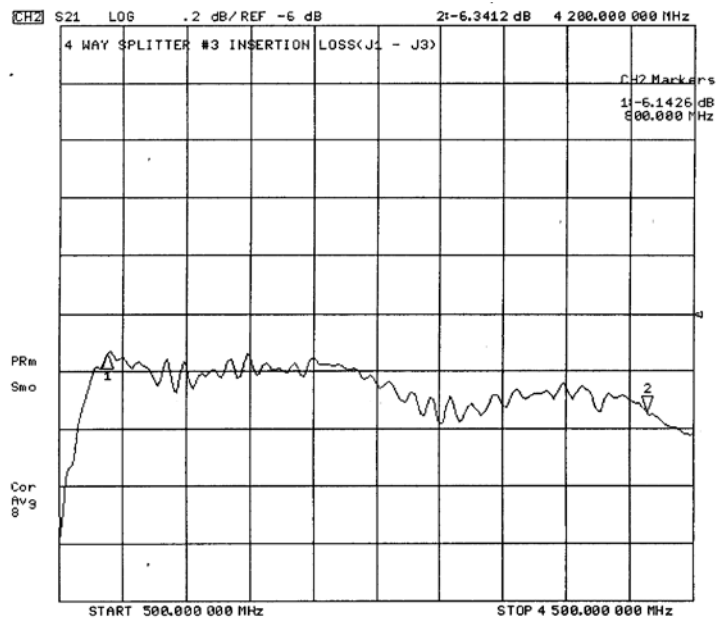

Figure 4-6. Typical Four-Way Splitter Insertion Loss
6. A typical Four-Way Splitter Insertion Loss is shown in Figure 4-6. The unused port must be terminated when checking the insertion loss.